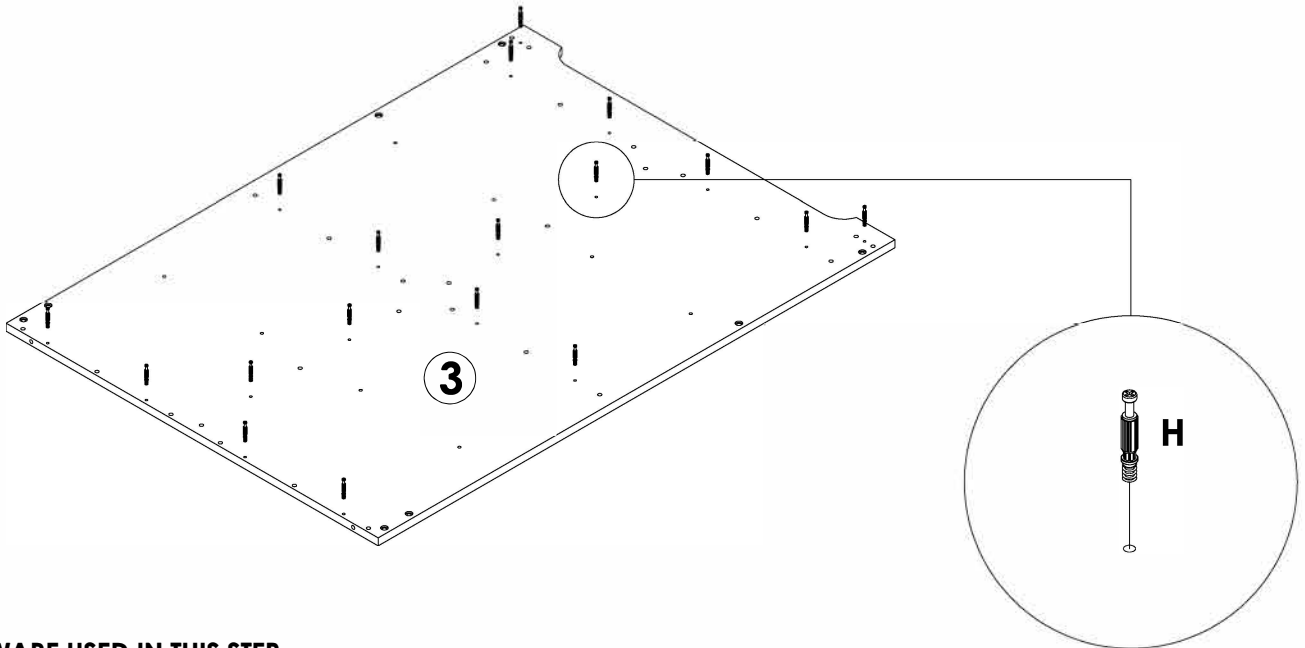

Figure 3
1. Attach **Connecting Bolts (H)** into specified Ø5MM holes on **Footboard Panel** by using a Crosshead Screw Driver as shown in **Figure 3**.